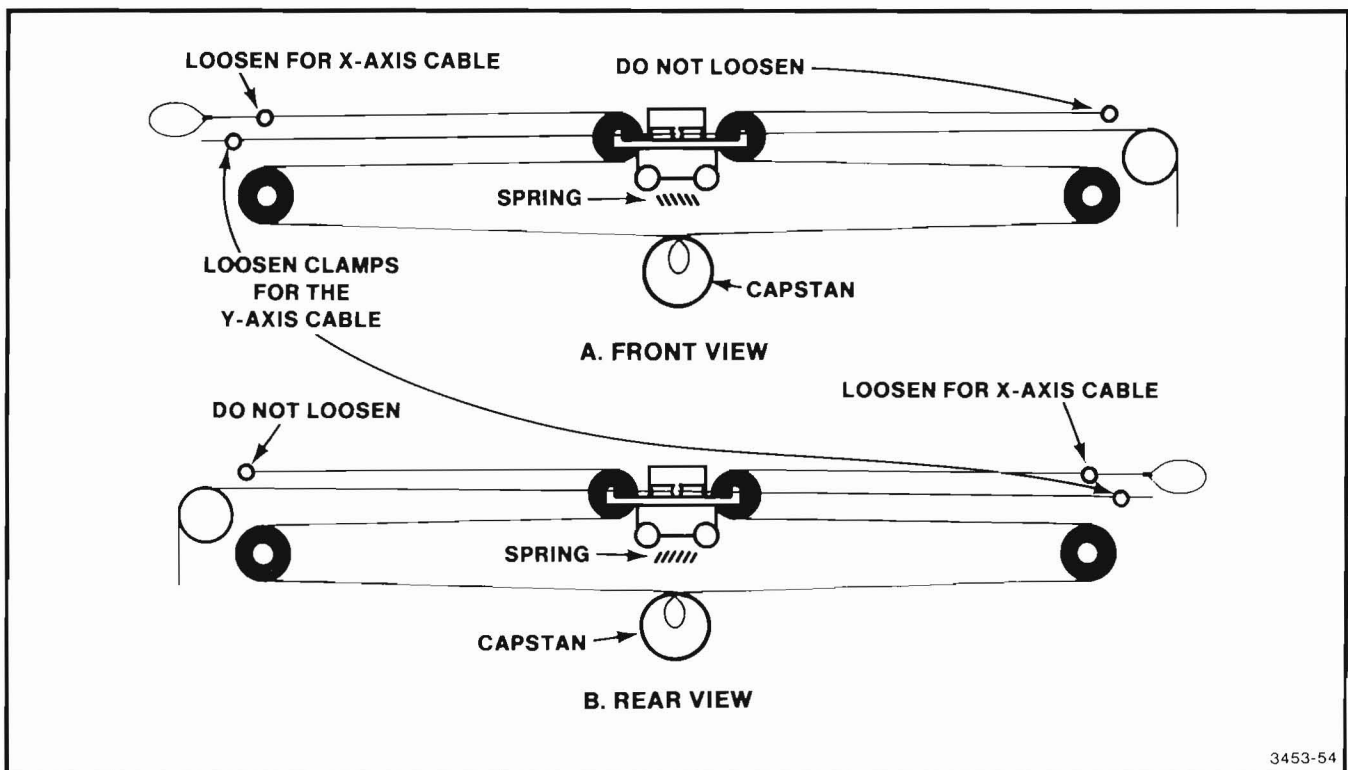

Figure 3-17. Cable Clamp Locations.
6. Tape the cable wraps around each of the three capstans. Then, briefly loosen the three cable tie-down screws that are next to the loops on the cable ends (shown in Figure 3-17) and obtain about 1/2 to 1 inch of slack in each of these three cables. Finally, tighten each cable tie-down screw to retain the slack.
7. Remove the spring on the lower portion of each of the two Y-axis arm pulley assemblies (see Figure 3-17). Notice that there is one spring on each end of the Y-axis arm.